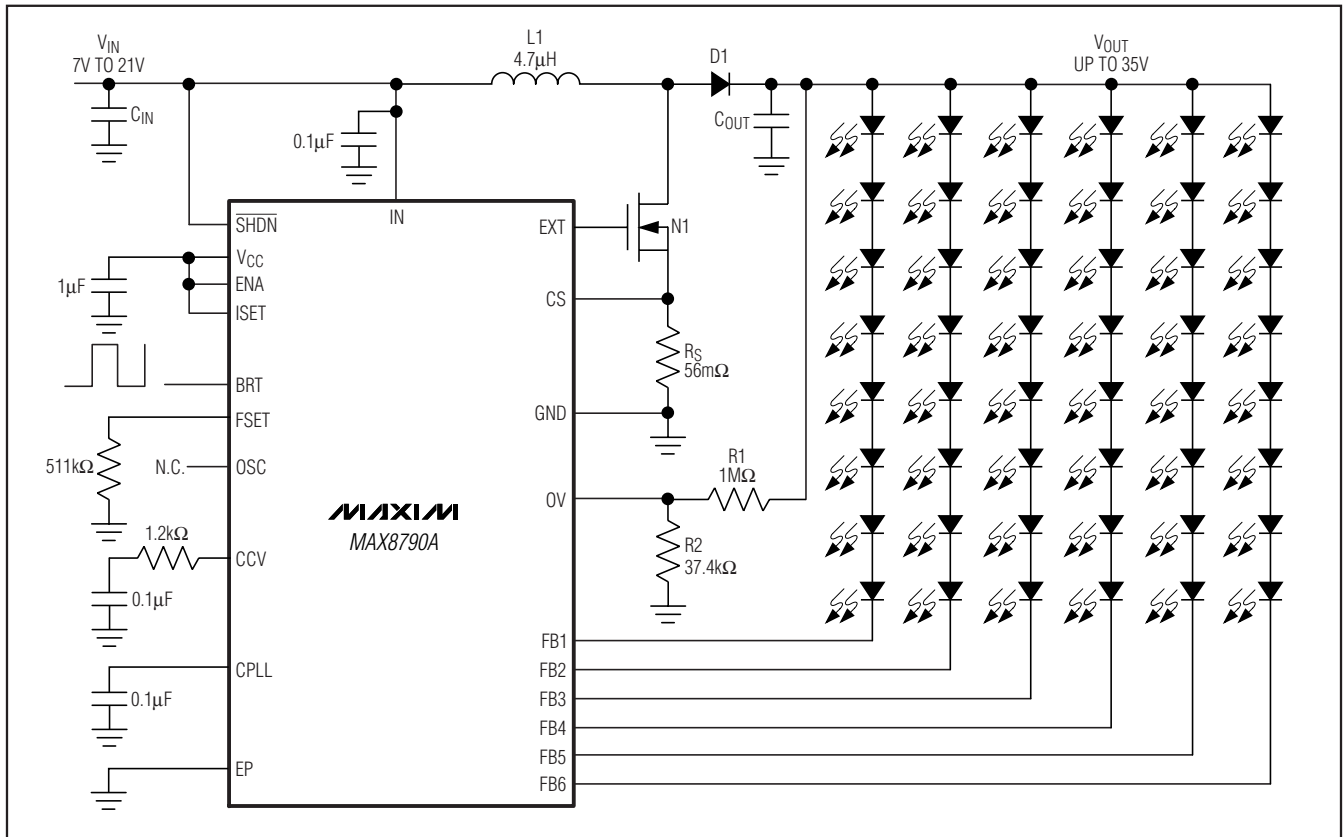

Figure 1. Typical Operating Circuit
To protect the step-up converter when the load is open, or the output voltage becomes excessive for any reason, the MAX8790A features a dedicated overvoltage feedback input (OV). The OV pin is connected to the center tap of a resistive voltage-divider from the high-voltage output (see Figure 1). When the MAX8790A is powered up, if none of the LED strings on FB1–FB6 are connected to the step-up converter output, the step-up converter regulates the output voltage to $V_{\text{OUT}} = 1.23V(1 + R1 / R2)$. When V_{OV} exceeds 1.23V, a comparator turns off N1. The step-up converter switch is reenabled after the output voltage drops below the protection threshold.